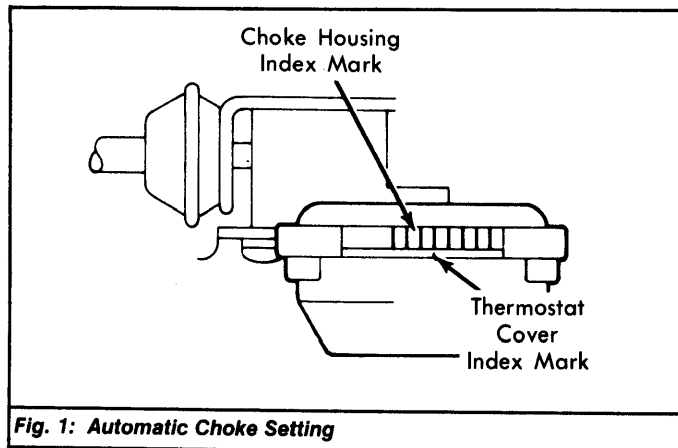

Fig. 1: Automatic Choke Setting
2) Warm engine and check that choke valve is fully open. Tighten all attaching screws after aligning index marks. See Fig. 1. DO NOT set thermostat cover index mark at any position except center of choke housing index mark.